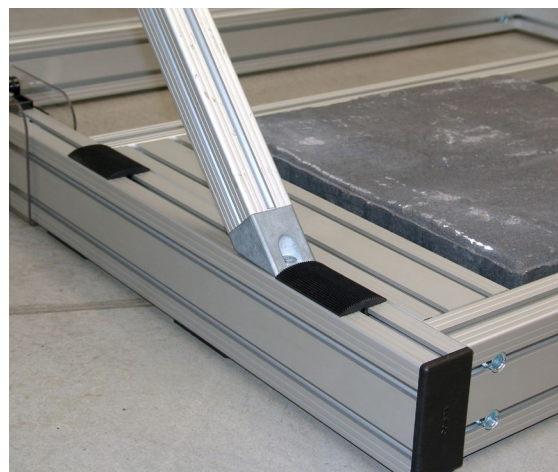

fig. 3.1-25
Step 19 The 4 weights **A4** are now placed in the rear part of the frame base (*fig. 3.1-25*). When doing so, observe the standard health and safety regulations (20 kg per weight).